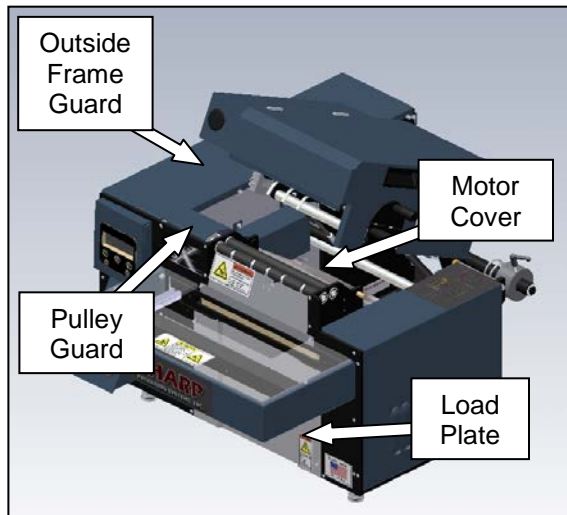

Figure 3-346. Guard Identification
1. Remove the four guards identified in Figure 3-346.